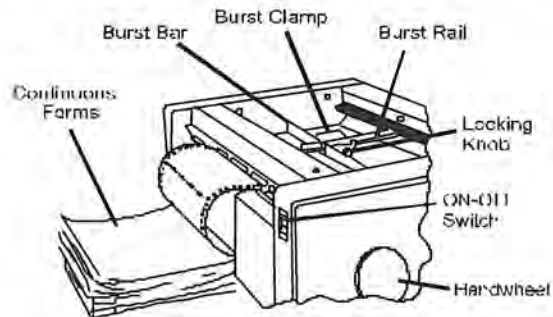

Figure 1
1. Setting The Burst Bar: With safety cover removed, set the burst bar to the appropriate length of the form to be burst. This is done by loosening the black locking knob at the side of the burst clamp. Then, slide burst clamp and burst bar along burst rail to allow form arrow to align with ruler marking on rail corresponding to the length of form being burst. Tighten black knob securely to prevent its loosening up during operation. See Figure 1. located on page 2 **NOTE:**